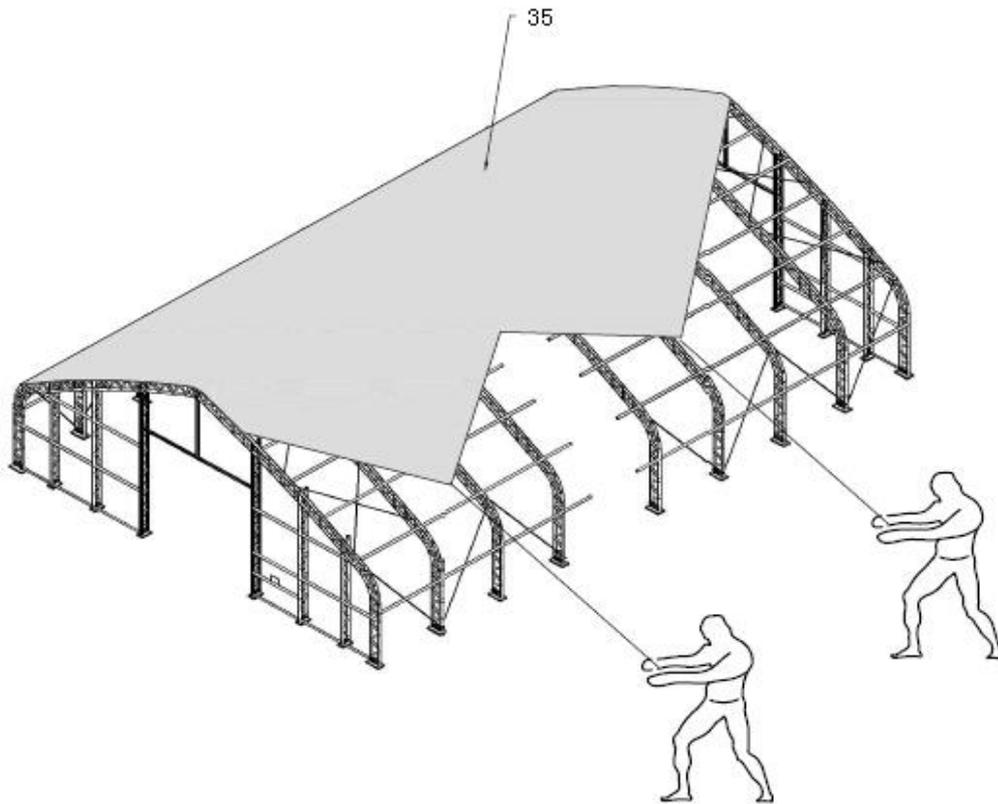

Figure 7
1. As Figure 7 shows, when two pieces of Roof cover is over top of Frame assembly (see Figure 7), insert the PVC tube(Part No.32)into pockets along both sides of Roof cover, find the Small ratchet(Part NO.34) to connect on PVC tube in Roof cover by parts.(see Figure 7).